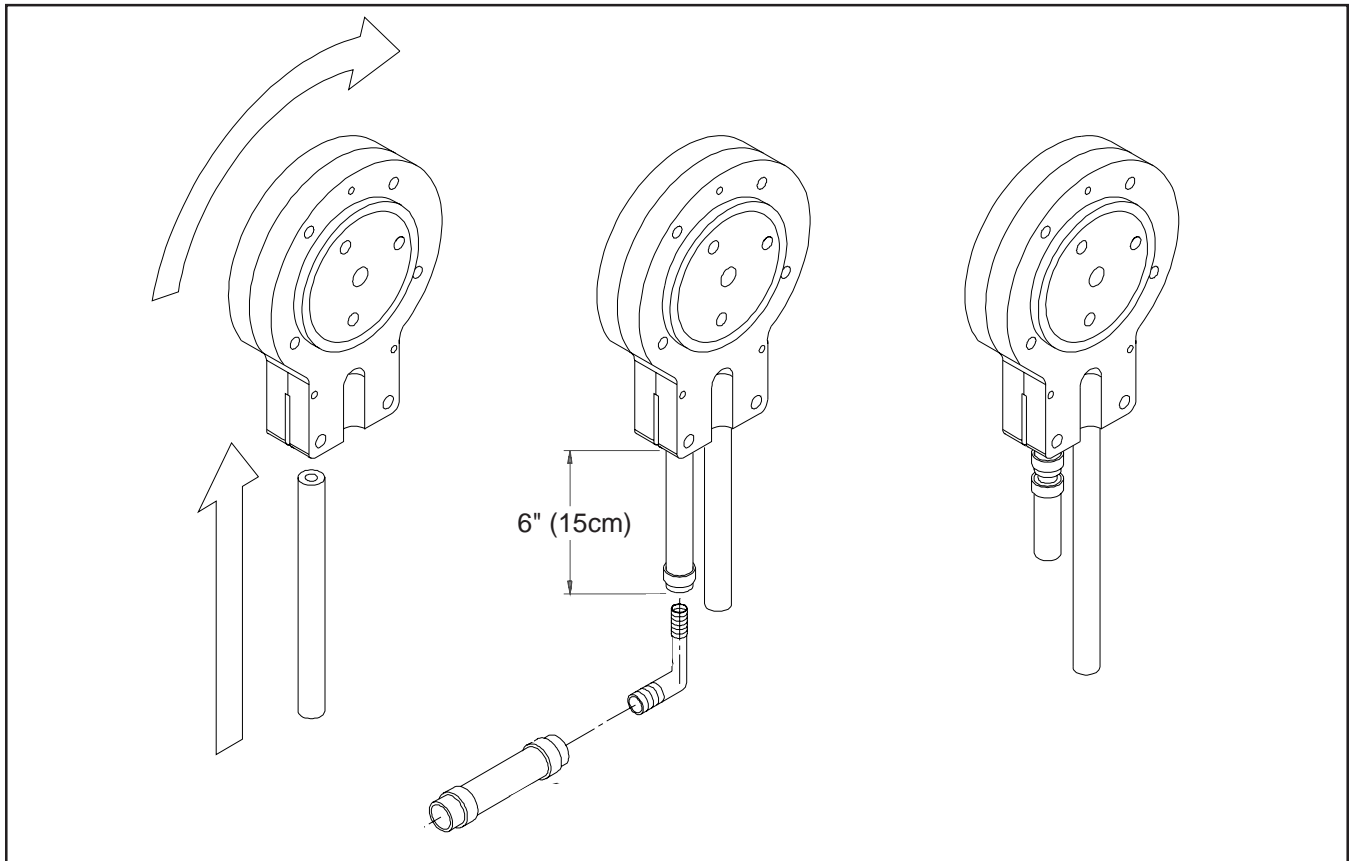

Figure 5. Mix Hose Installation
3. Connect elbow fitting to free end of tubing. Connect opposite end of elbow to 1/4 inch I.D. tan tubing on the left side of pump head. Secure with hose clamps (see Figure 5 and 6).